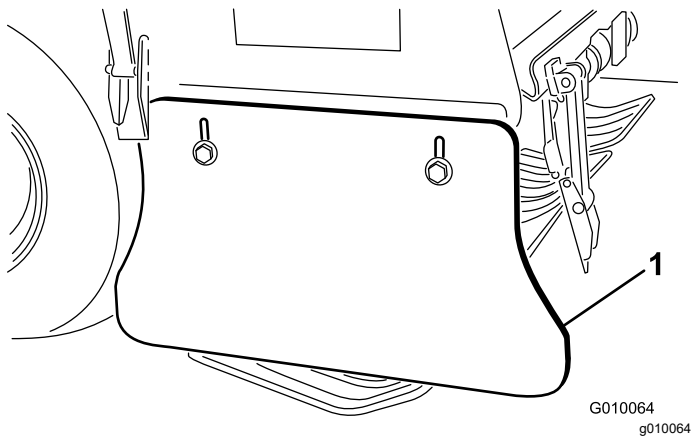

Figure 67
2. Loosen the bolts and nuts securing the side shield to frame (Figure 67).